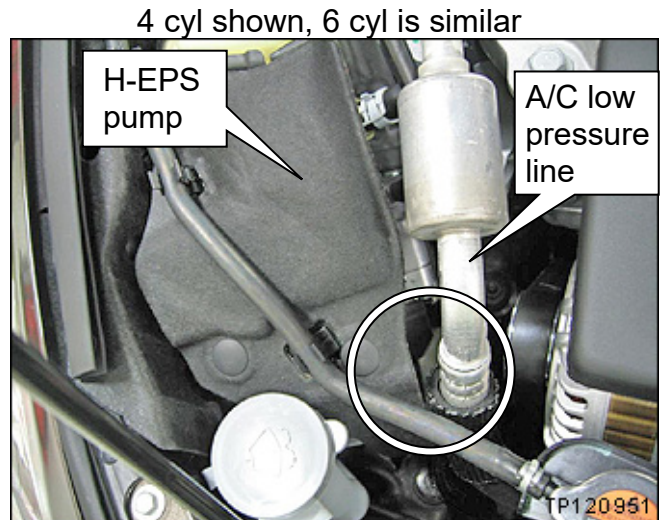

Figure 11
- Check the location circled in Figure 11.